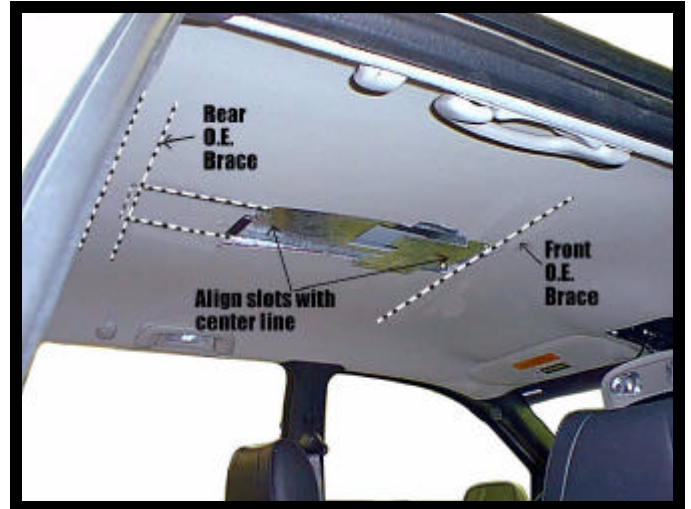

FIGURE 4
8. Insert rear mounting bracket (item 6 pg. 2) with the bent edges downward. Slide bracket rearward between headliner and roof until tabs engage rear O.E. roof brace. Align slots in bracket with center line scribed on roof. See Figure 4. **Note: There is a foam sealer between O.E. braces and roof of vehicle. It may require a little force to fully engage tabs of bracket if foam is in that area.**